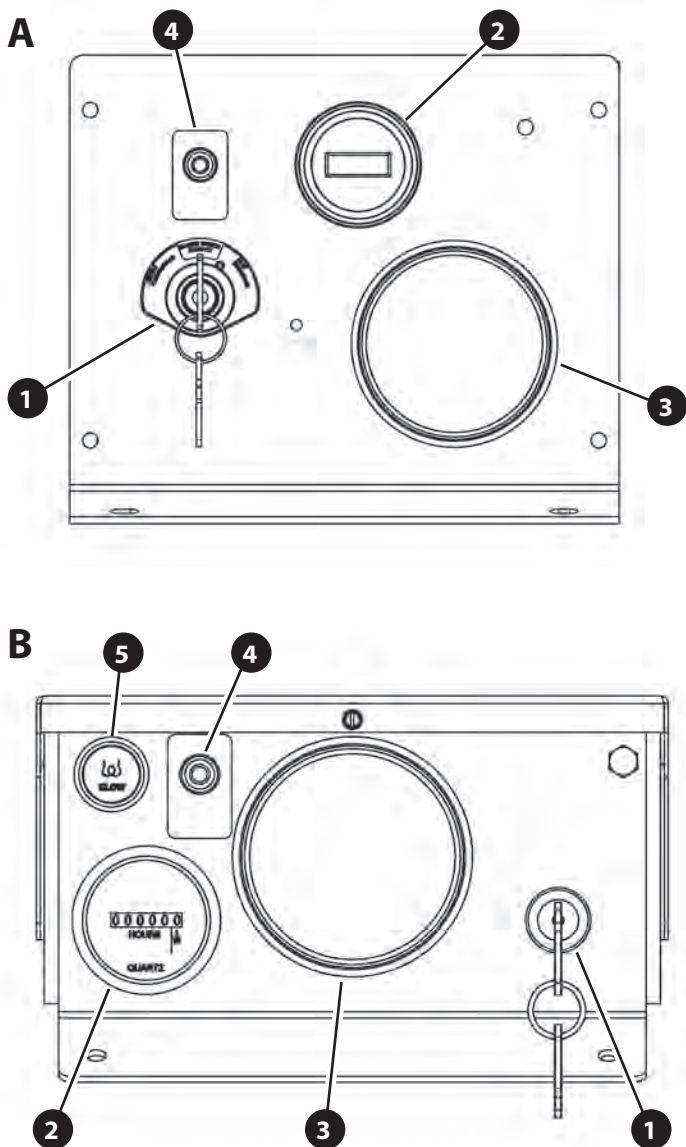

Figure 1.3
There are two different engine control panels - one for the Caterpillar C1.5 engine (A, Figure 1.3), and one for the Isuzu 3CE engine (B).